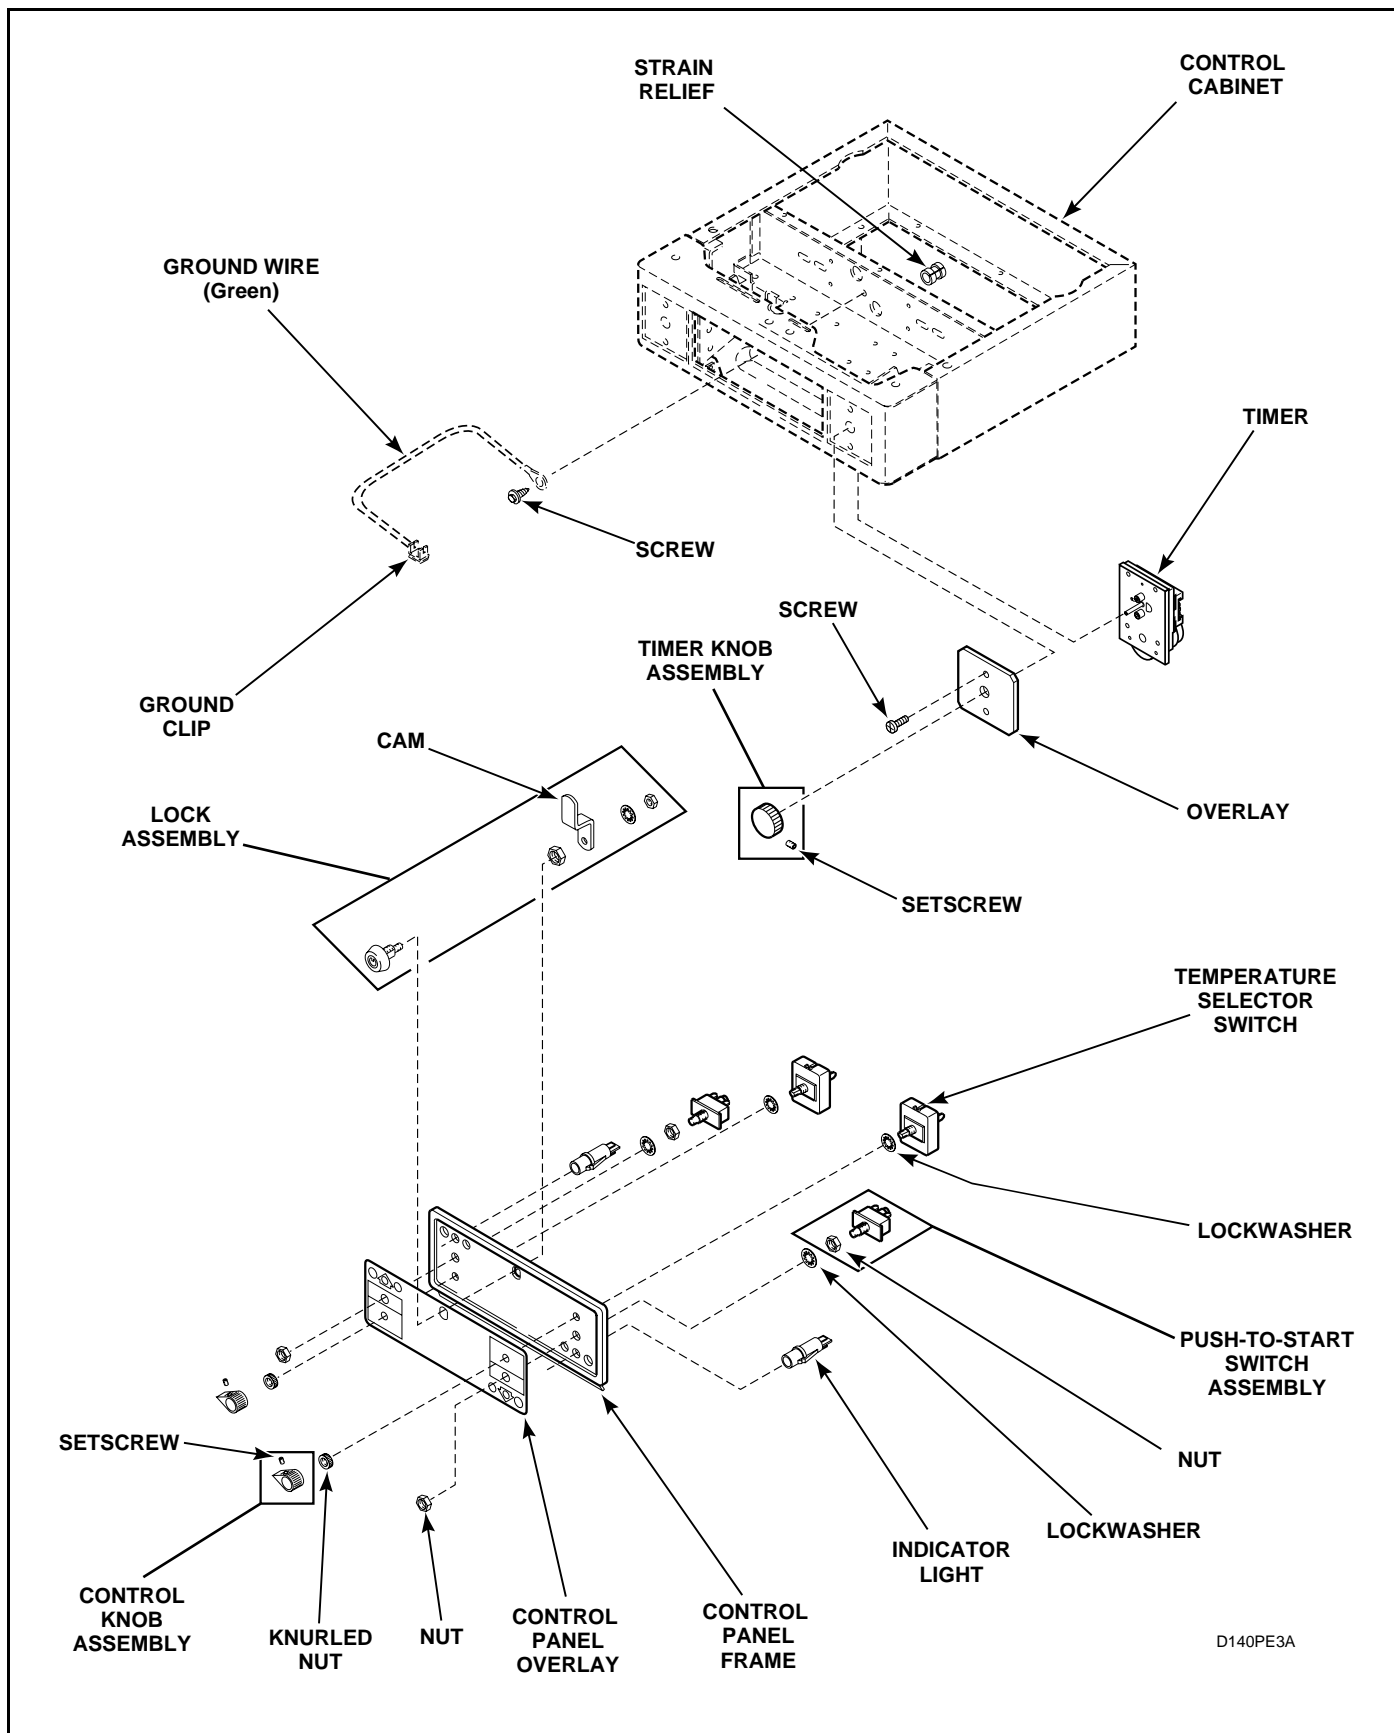

Figure 7
- Loosen setscrew holding switch knob to shaft and pull knob off shaft. See *Figures 7 or 8*.
- Remove knurled nut holding fabric selector switch to panel and remove switch. See *Figures 7 or 8*.
- Remove hex nut from push-to-start switch and remove switch. See *Figures 7 or 8*.
- Squeeze locking tabs on indicator light and pull light out from back of panel. See *Figures 7 or 8*.
- (6) Loosen setscrew holding control knob to temperature selector switch shaft and pull knob off shaft. See *Figures 7 or 8*.
- (7) Remove knurled nut holding temperature selector switch and lockwasher to panel, then remove switch and lockwasher. See *Figures 7 or 8*.
- (8) Remove nut holding push-to-start switch assembly and lockwasher to panel, then remove switch and lockwasher. See *Figures 7 or 8*.
- (9) Squeeze locking tabs on indicator light, then pull light out through back of panel. See *Figures 7 or 8*.
- (10) Remove locknut and lockwasher holding cam to lock assembly. See *Figures 7 or 8*.
- (11) Remove large locknut holding lock assembly to control panel frame and overlay, then remove lock. See *Figures 7 or 8*.
- (12) Remove control panel overlay by carefully peeling it from the control panel frame.
- f. Loosen setscrew holding timer knob assembly to timer shaft and pull knob off shaft. See *Figure 7*.
- g. While supporting timer, remove screws holding timer to control cabinet. See *Figure 7*.